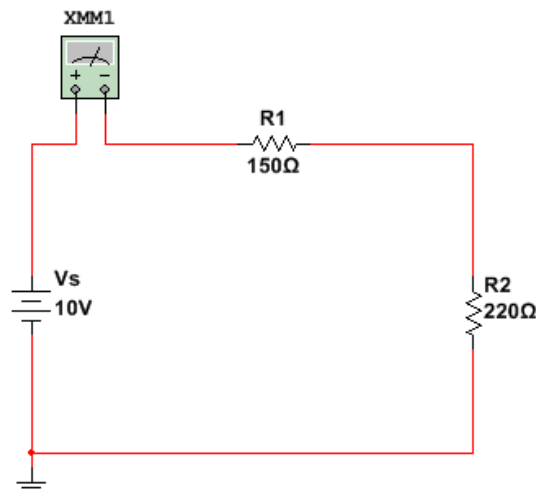

Figure 4.12 – Measuring the current through  $150\ \Omega$  resistor
- Obtain one multimeter from the instrument toolbar and connect the multimeter in between the break. Check Figure 4.12.